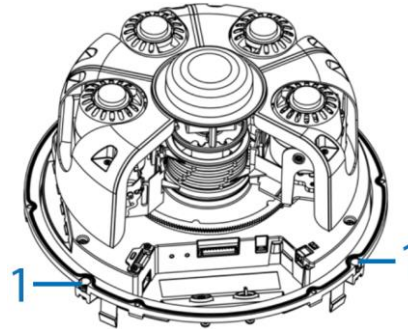

Figure 2
2. Use the T20 Torx wrench to remove the two screws (1) (Figure 2) on the camera lens module and remove the mounting plate (3) (Figure 1) from the camera lens module.
Note: You may need to press the mounting clips (1) (Figure 2) to release the camera module.